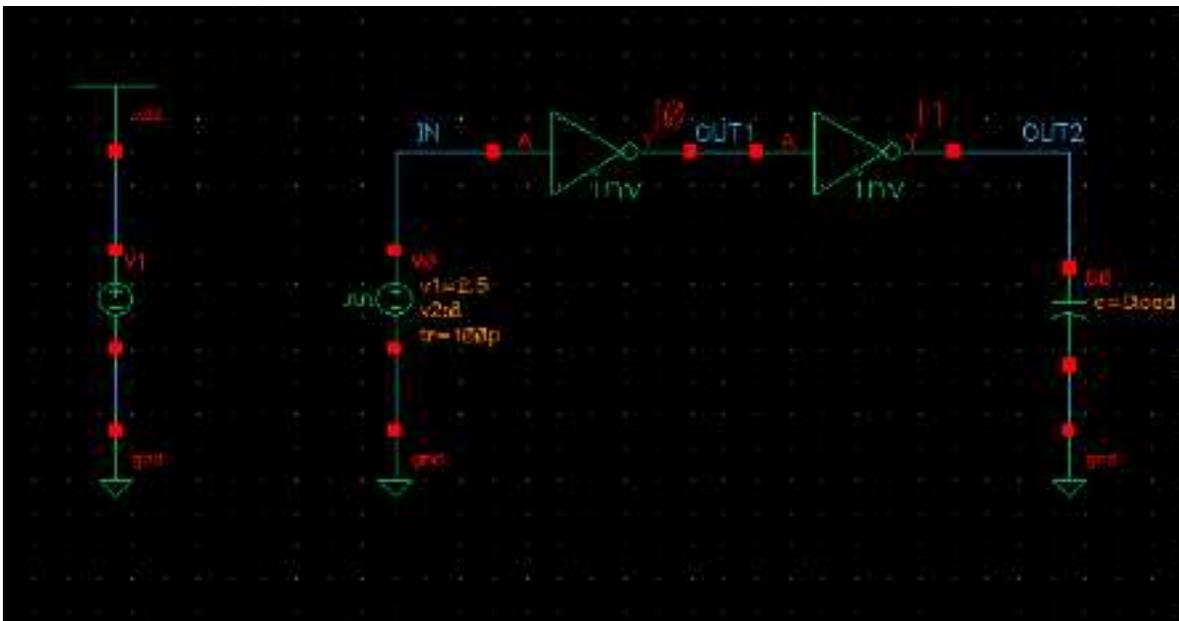

Figure 2: Final schematic of the testbench used to test our inverters.
18. Finish the connection of the entire schematic by connecting them using wires. The final schematic should look similar to Figure 2, with the exception of the labels. To create the labels attached to the wires, go to Add->Wire Name (shortcut: l) and in the Names field, type in “IN OUT1 OUT2” and successively click on the corresponding wires as shown in Figure 2. This step assigns a user-defined name to specific wires. Without this step, the software will automatically name the wires (with cryptic names such as net020) and it would be more confusing later on when we display the voltage waveforms of wires we are interested in.